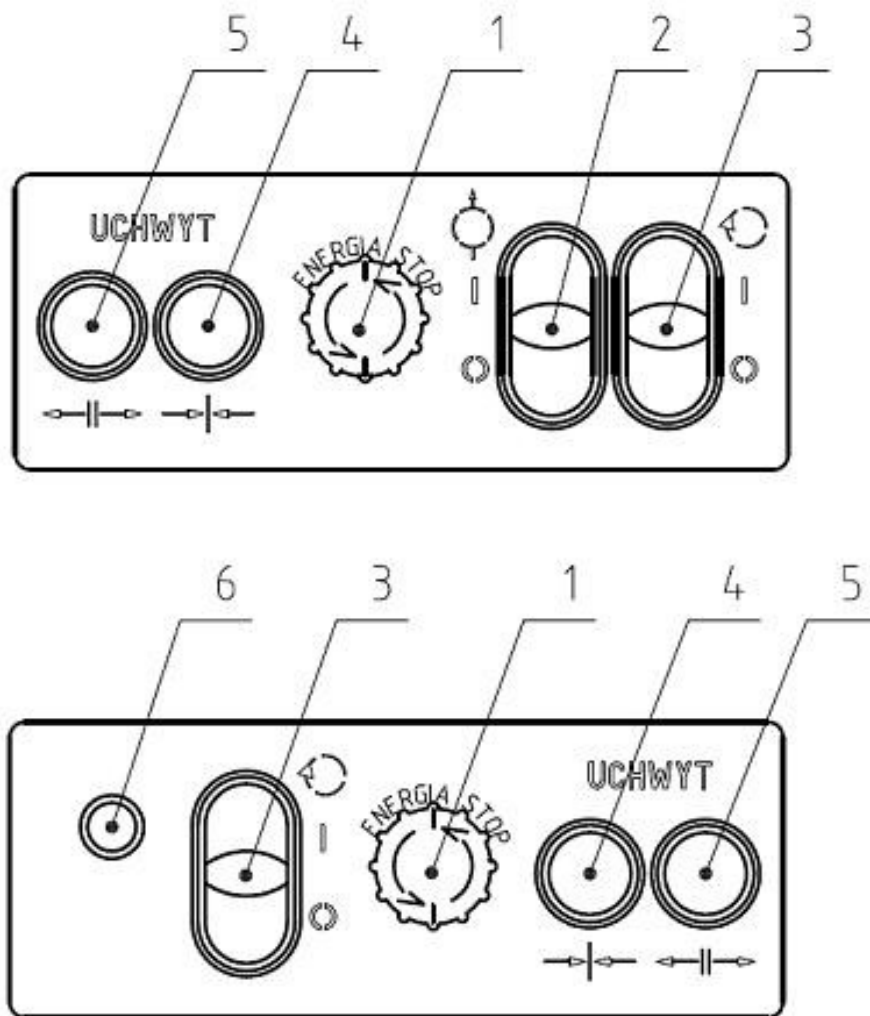
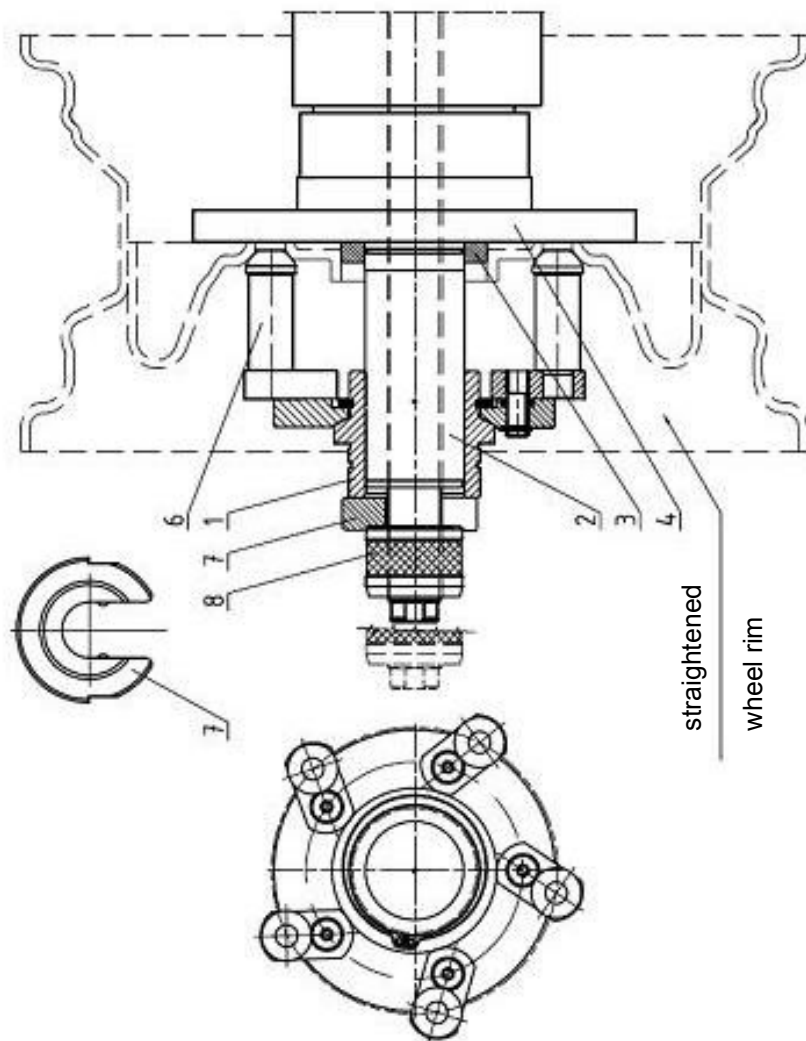

Fig. 2. CONTROL PANELS
Fig. 4. Mounting a wheel rim on the machine's spindle
The machine is supplied with two control panels. The description of particular parts of each panel is presented in the figure 2. The electrical system scheme is presented in the figure 6.
The machine is supplied with the hydraulic system to mount wheel rims. Clamping is carried by the hydraulic servo-motor set in the central position by means of a suitable adapter - figure 4.
11.2 MOUNTING AND DEMOUNTING SYSTEM OPERATION (Figure 4)
- Choose the proper mechanical pressure (Fig.4 no.1) for the rim which is going to be straightened.
- On the spindle (Fig.4 no.2), slide the centring ring (Fig.4 no.3) with the outer diameter adapted to the diameter of central hole of rim.
- Slide the rim until it leans on the flanche of adapter (Fig.4 no.4).
- Slide the mechanical pressure (Fig.4 no.1) on the spindle (Fig.4 no.2) until the bolts (Fig.4 no.6) are set in the holes of the screws which fix the wheel to the car's hub.
- Put the washer (Fig.4 no.7) on the spindle (the flat side to mechanical pressure) between the mechanical pressure and the nut of adapter (Fig.4 no.8).
- Turn the nut of adapter (Fig.4 no.8) manually.
- Press and hold the button (Fig.2 no.4) on the control panel until the rim is mounted securely.
- Press and hold the button (Fig.2 no.5) on the control panel (Fig.2) until can be possible unscrew the nut (Fig.4 no.8) of adapter.
- Remove the washer (Fig.4 no.7).
- Take off the mechanical pressure (Fig.4 no.1) and then the repaired rim.